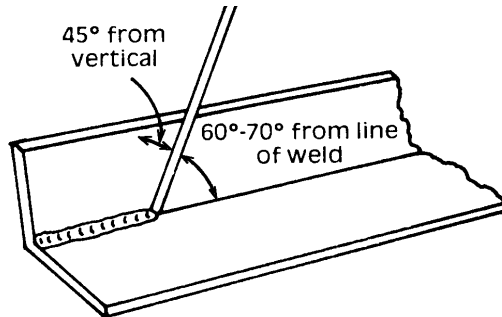
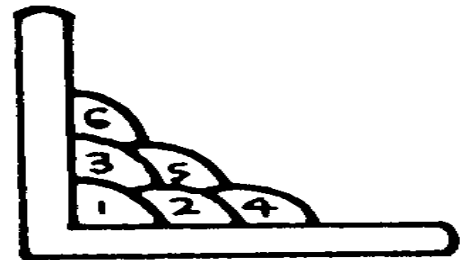

Figure 15 - Electrode position for HV fillet weld
Figure 16 - Multi-runs in HV fillet weld
A piece of angle iron is a suitable specimen with which to begin, or two lengths of strip steel may be tacked together at right angles. Using a 3.2mm Ferrocrafter 21 electrode at 100 amps, position angle iron with one leg horizontal and the other vertical. This is known as a horizontal-vertical (HV) fillet. Strike the arc and immediately bring the electrode to a position perpendicular to the line of the fillet and about 45° from the vertical. Some electrodes require to be sloped about 20° away from the perpendicular position to prevent slag from running ahead of the weld. Refer to Figure 15. Do not attempt to build up much larger than 6.4mm width with a 3.2mm electrode, otherwise the weld metal tends to sag towards the base, and undercut forms on the vertical leg. Multi-runs can be made as shown in Figure 16. Weaving in HV fillet welds is undesirable.